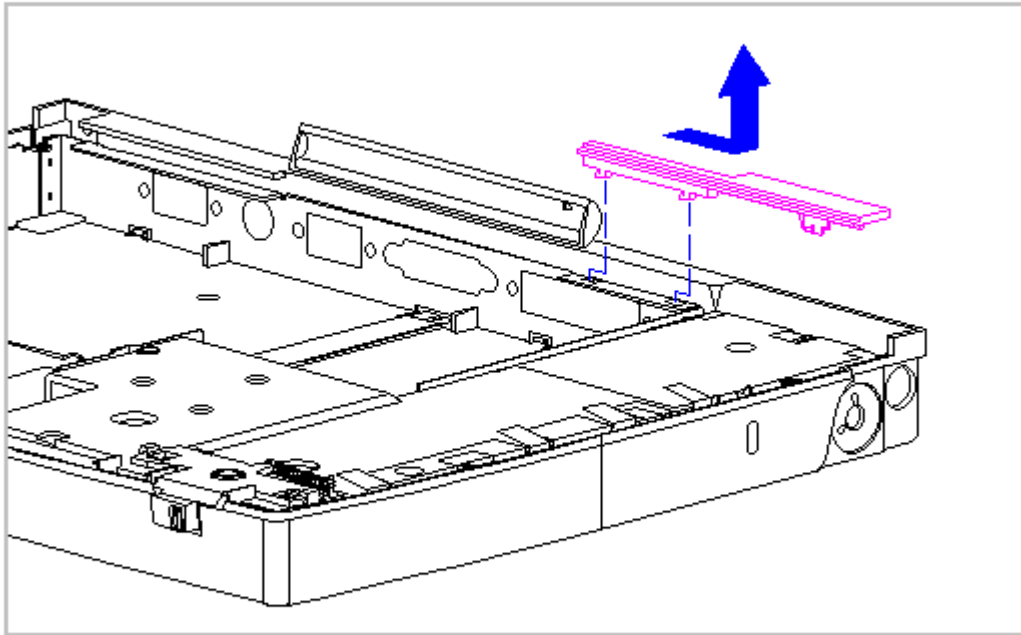

Figure 3-73. Removing the Trough from the CPU Base (All Models)
9. Slide the trough at the rear of the CPU base to the right, then lift up to remove (Figure 3-73).